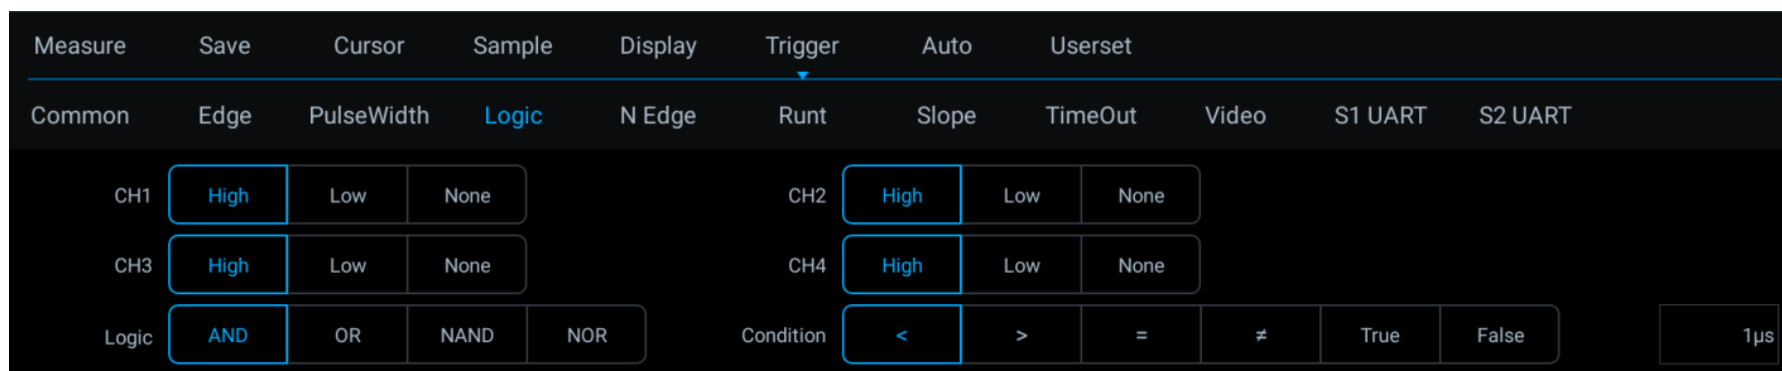

Figure 6-21 Logic Trigger Setting Menu
1) Tap “Trigger” on the main menu to open the trigger menu, select logic trigger in the trigger type, and set the logic trigger as follows, as shown in Figure 6-21: